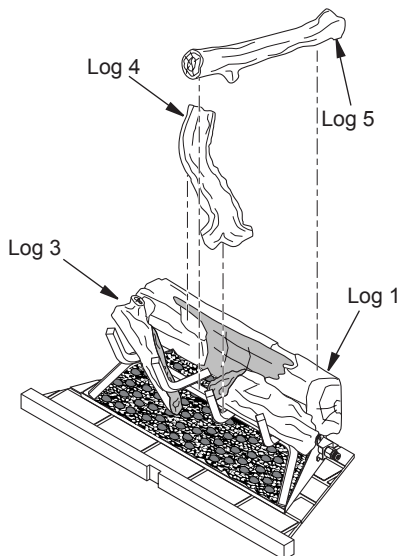
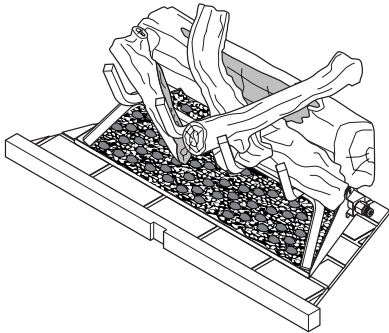

Figure 27 - Installing Log 4 and 5
Figure 28 - Logs Installed
4. Place top of log 4 into notch on log 1. Rest log 4 on center of grate as shown in Figure 27.
5. Place top of log 5 into notch on top right of log 1 (see Figure 27). Rest log 5 between two middle grate fingers as shown in Figure 28, page 17